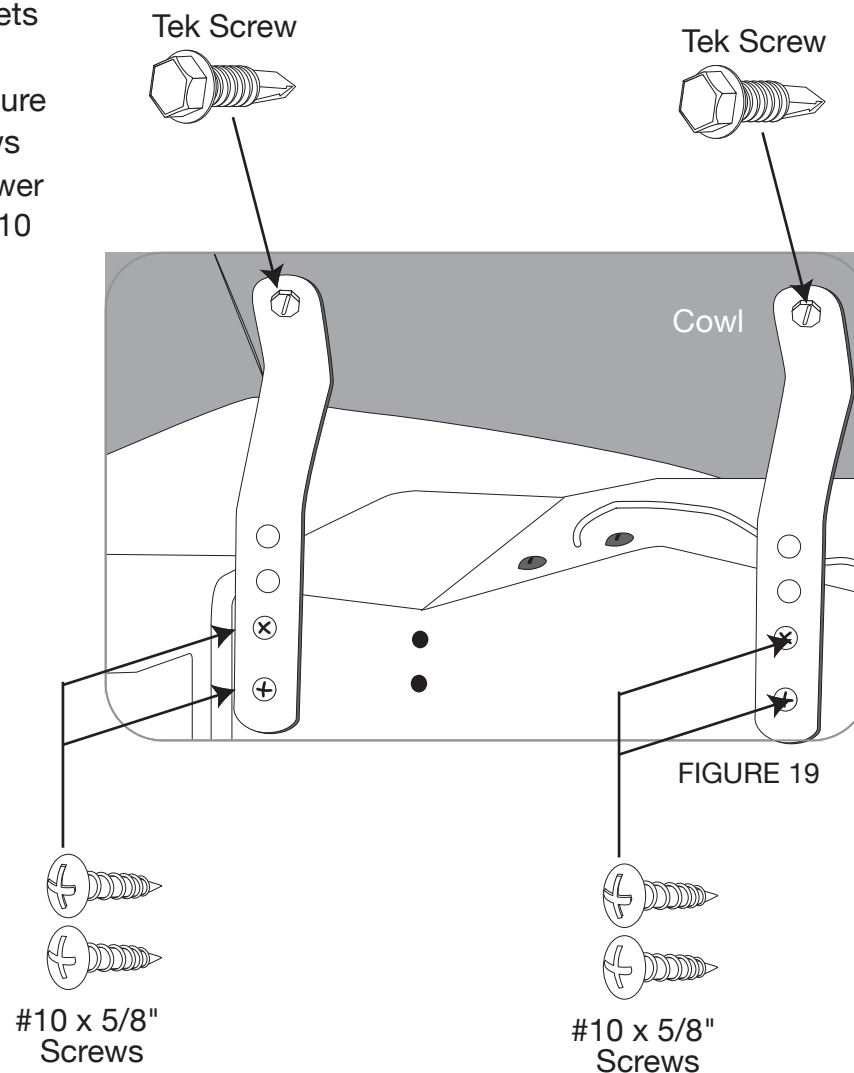

FIGURE 19
Locate in bag kit B the right and left evaporator support brackets (PN#0023-7). Using a non powered screwdriver attach the brackets through the holes provided on the evaporator (see figure 18 for EVAP hole location) using (4) #10 x 5/8" pan head screws provided in bag kit B (see Figure 18). Holding unit level with lower edge of dash attach brackets to the dash cowl panel using (2) #10 x 16 -3/4" Tek screws provided in bag kit B (see Figure 19).